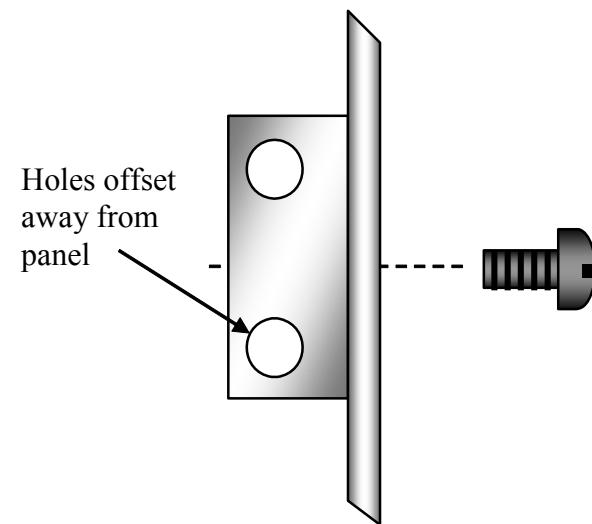

Figure 6-7
- Install two 2-D fasteners on each side panel at the locations indicated by small rectangles in Figure 6-6. Use one chassis screw to hold each fastener to the side panel (see Figure 6-7). The two unused holes on each fastener must be offset *away* from the side panel.